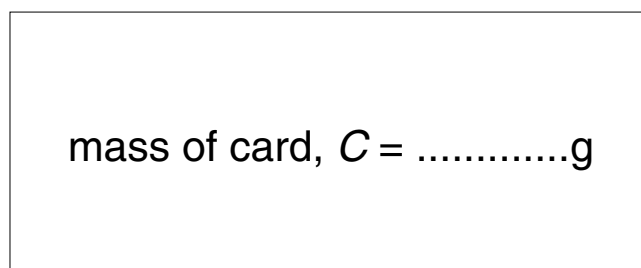

Fig. 1.1
- 1 A label should be attached to the base of the stand giving the mass of the card to the nearest gram, as shown in Fig. 1.1.